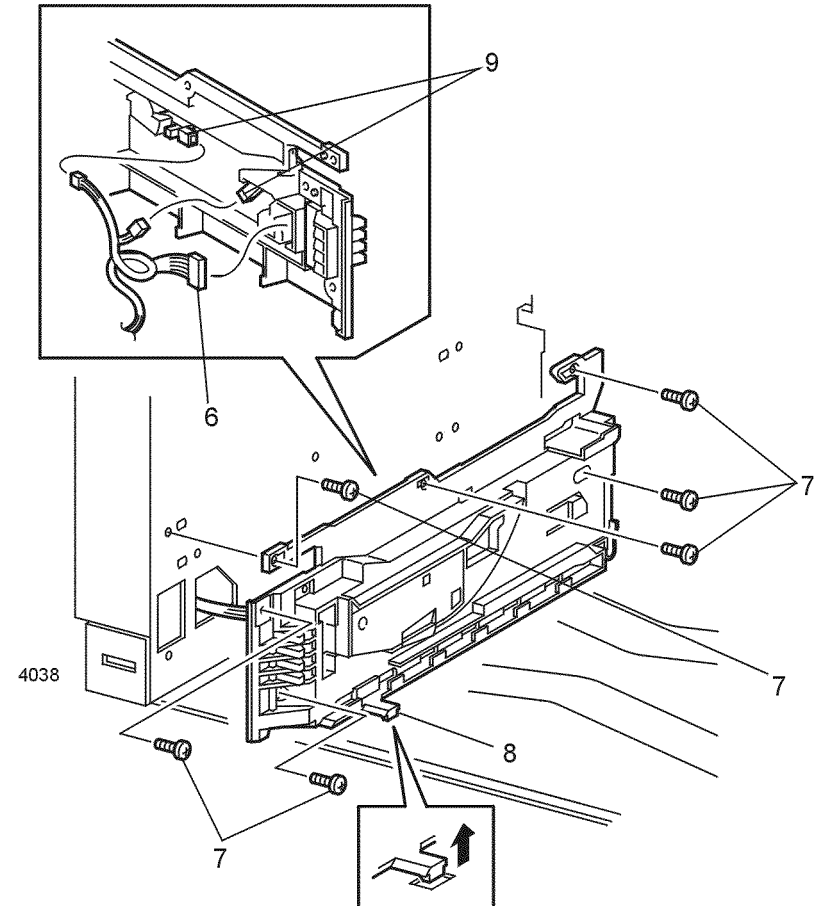

Figure 1 Tray 1 Left Guide Assembly
7. Remove the six screws that secure the Tray 1 left Guide Assembly to the printer (Figure 1).
8. Use a small screwdriver to pry up on the locking tab that locks the guide assembly to the bottom of the printer (Figure 1).
9. Disconnect P/J202 and P/J127 from the guide assembly (Figure 1).